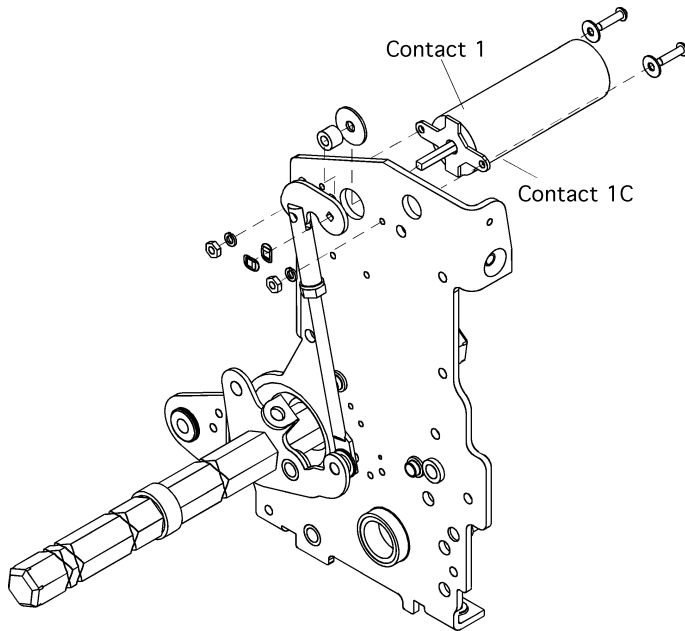

Figure 8-22 Removal and installation of the auxiliary switch module.
Use the following procedure to remove an auxiliary switch module for replacement, as illustrated in Figure 8-22. The linkage does not normally need replacement.
1. Insert the shaft of the auxiliary switch module through the hole in the breaker frame, so that the scribed line on the end of the shaft is horizontal. Contact 1 must be on the top of the module and contact 1C on the bottom, as indicated in Figure 8-22. Verify that the breaker is OPEN during this alignment.